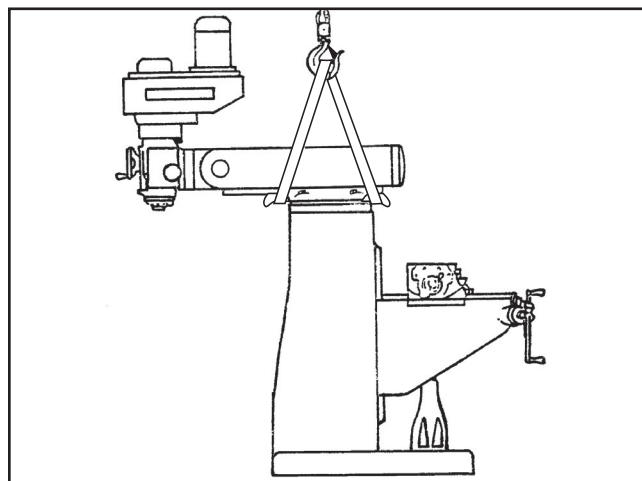

Figure 10. Using lifting straps to lift the mill.
1. Position the head in an upright position, swivel the ram 180°, as shown in **Figure 10**, then lock it in place (refer to **Head Movement** on **Page 27** and **Ram Movement** on **Page 28** for detailed instructions).
2. Position the lifting straps under the ram, as shown in **Figure 10**, with padding between the straps and the mill to protect the ram way.